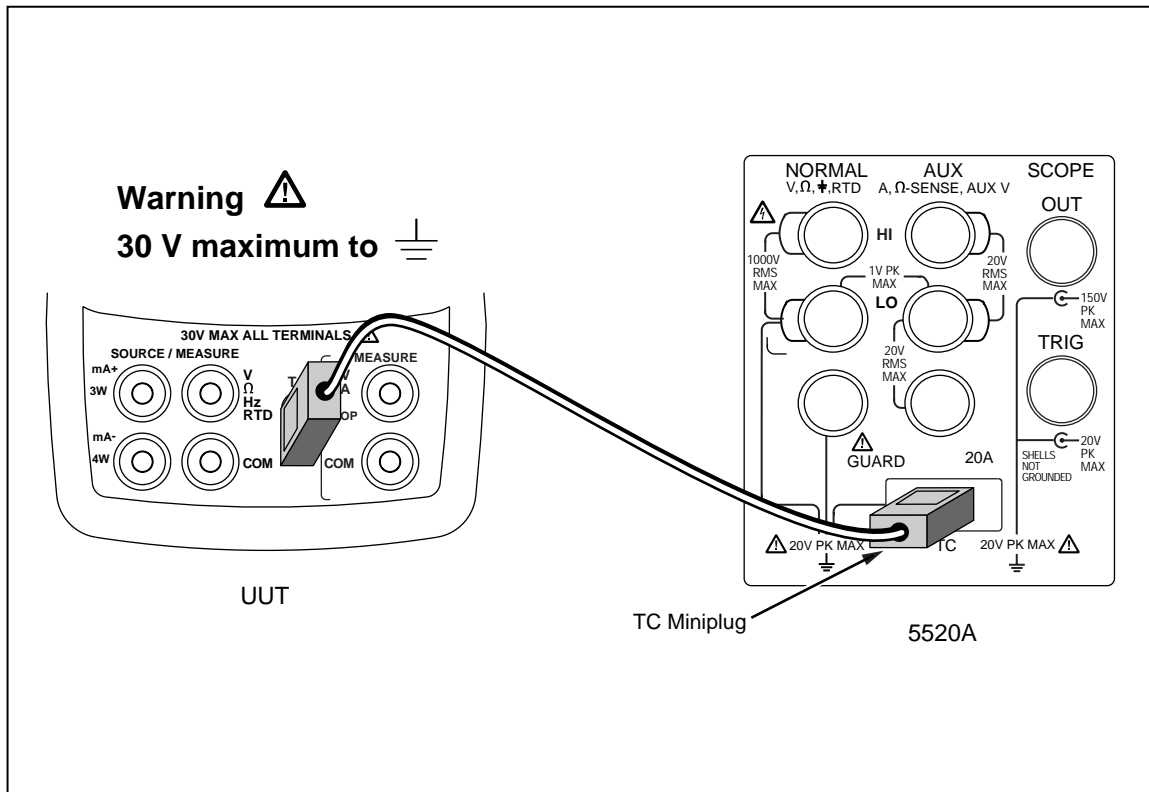

Figure 10. Lower Display Thermocouple Test Connections
1. Remove the test leads from the UUT terminals; then connect a type J thermocouple lead between the TC jack on the UUT and the TC jack on the 5520A, as shown in Figure 10.